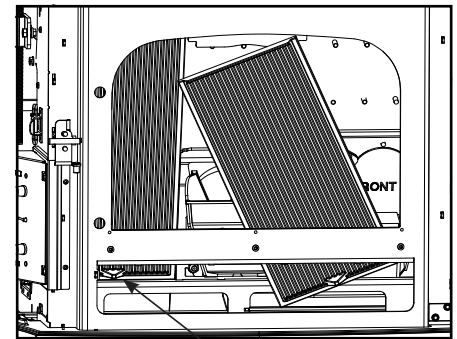

Figure 2.3a Lifting tab
4. Tip the top of the heat exchanger toward the door opening until it can be lifted up and out. Figure 2.3a